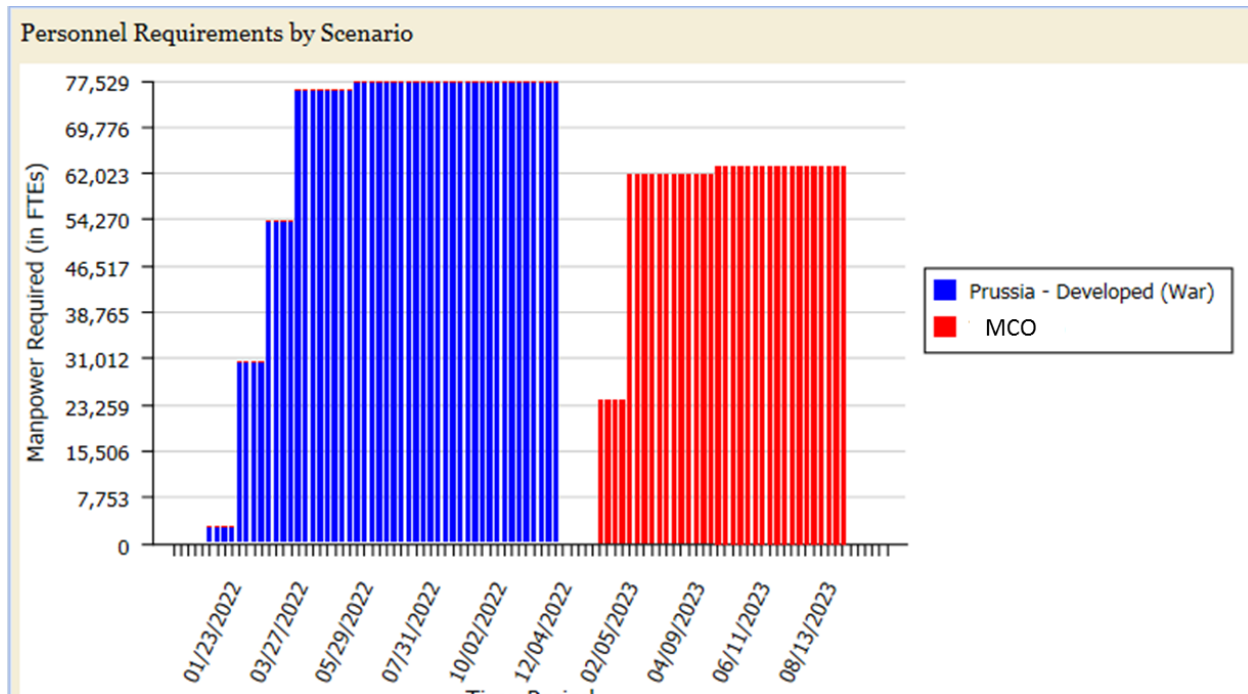

Figure 2. Personnel Requirements by Scenario for no overlap analysis.
- Click on Graph: Total Personnel Requirements by Scenario. This graph shows the total manpower requirements by mission scenario. It does not include Additional Support Need values. Check that the graph looks like Figure 2: